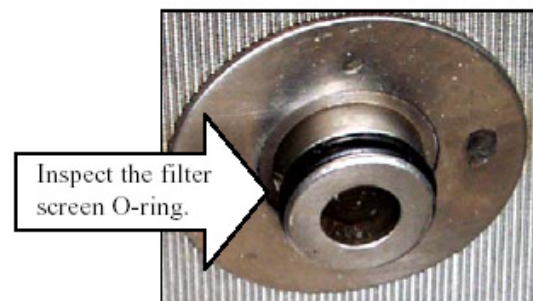

Figure 6
- Inspect the fitting on the bottom of the Magnasol filter assembly to ensure that the O-ring is present and in good condition. (See Figure 6) 检查Magnasol滤油车组件得底部装置，要确保O型圈没有丢失并完好无损。